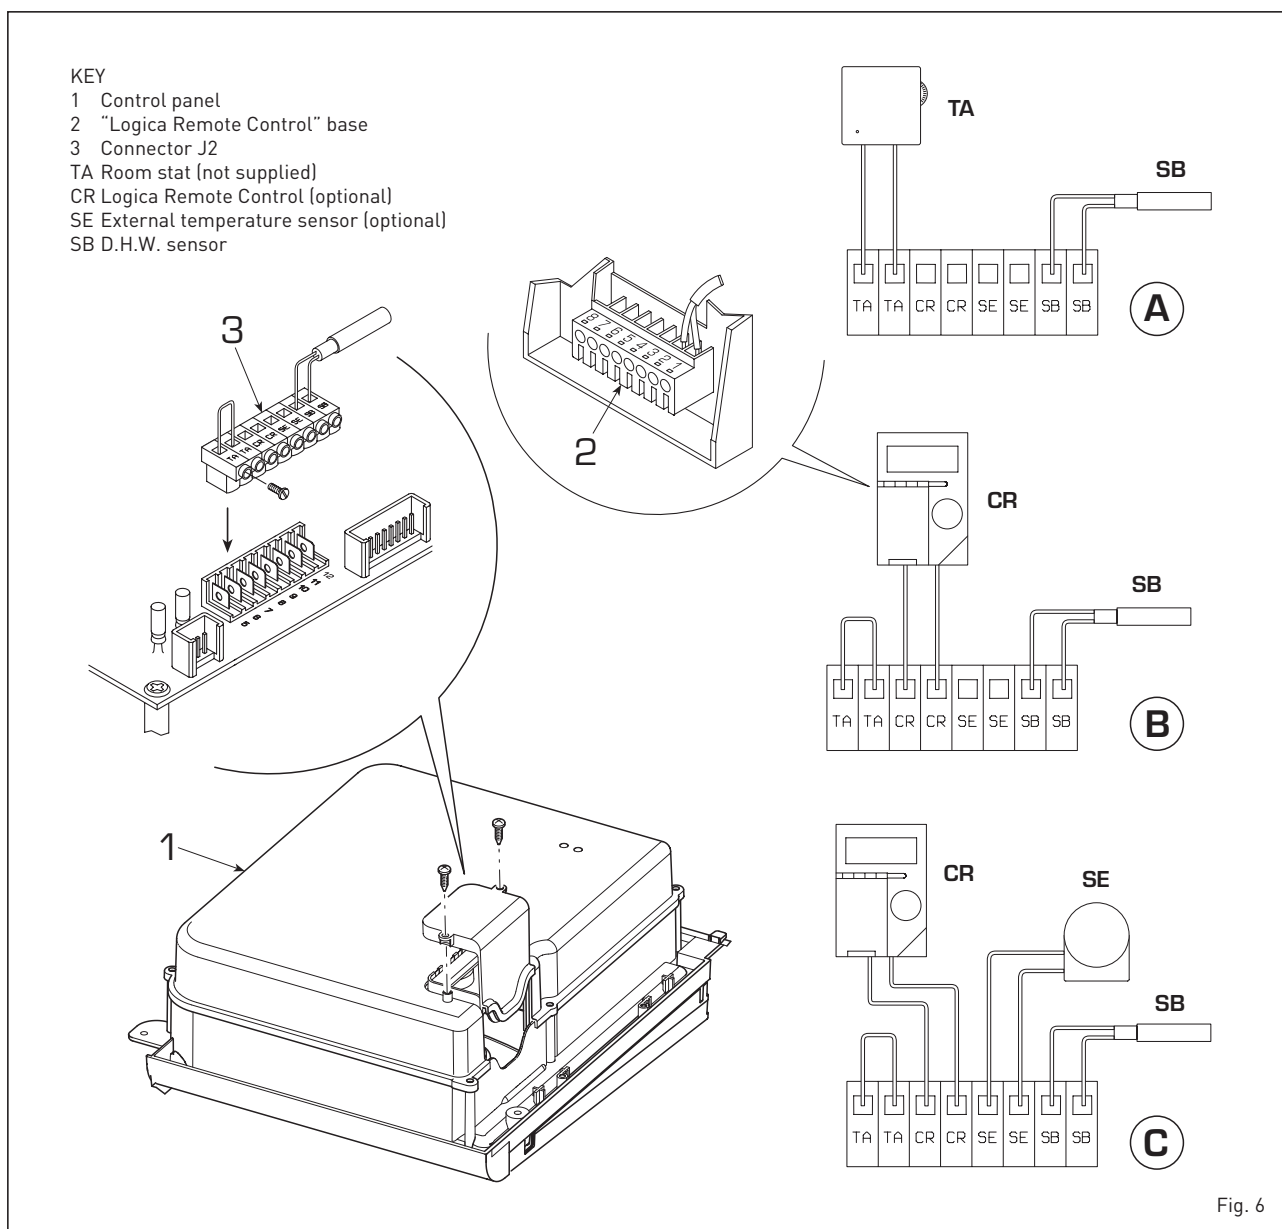

Fig. 6
The SB must be connected to the electronic control panel of the boiler as shown in fig. 6. To aid installation an optional hydraulic connection kit is available, code 8076104 ("BT130") and code 8076105 ("BT150"). Detailed instructions on assembling the kit are given in the packaging.
2.6.1 Room stat connection (fig. 6 pos. A)
2.6.2 "Logica Remote Control" connection (fig. 6 pos. B)
2.6.3 External temperature sensor connection (fig. 6 pos. C)
The "BT130 - T150" tanks come with a D.H.W. sensor (SB) to be connected to the J2 connector (3 fig. 6)